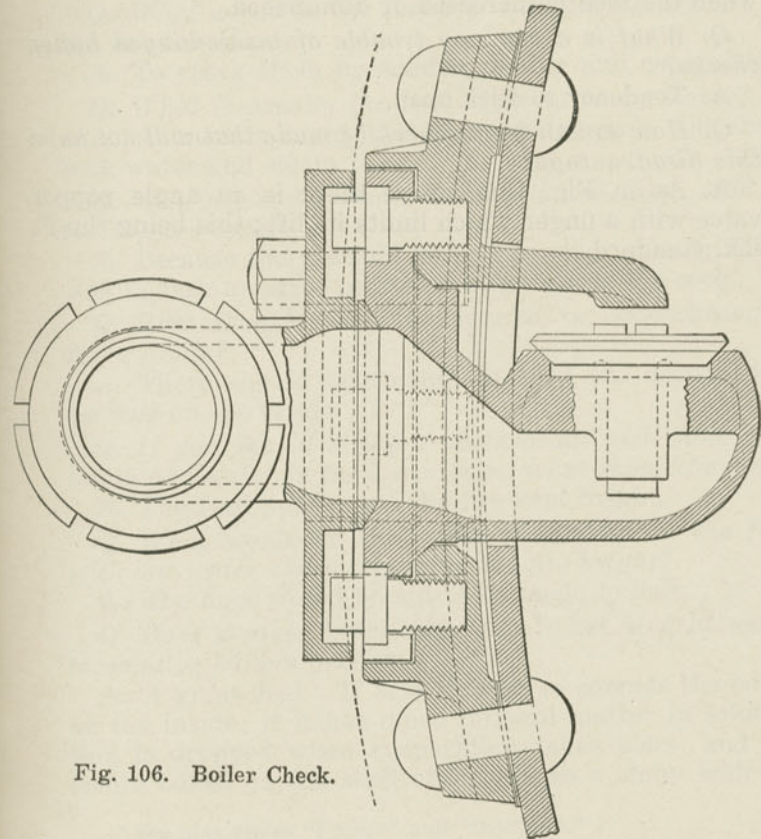

Fig. 106. Boiler Check.
A. As in Fig. 106, where there is an angle poppet valve with a finger which limits its lift; this being the P. RR. standard.